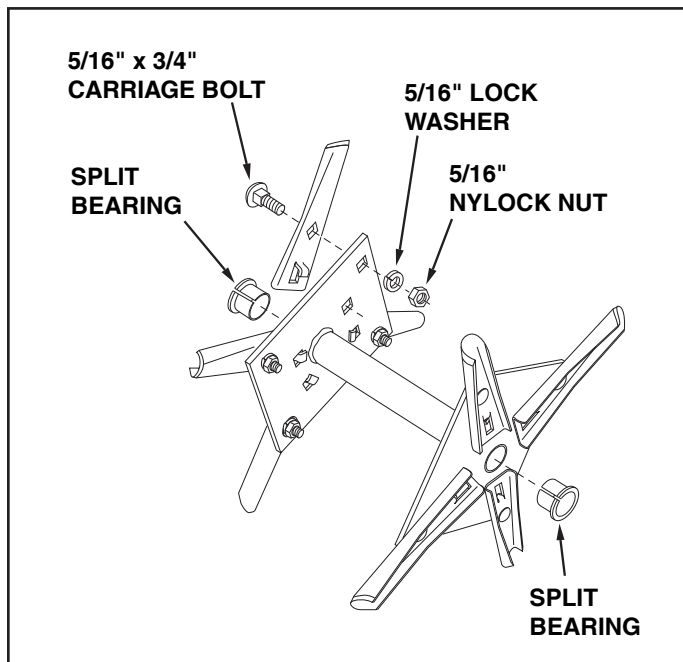

FIGURE 1
1. Assemble eight aerator knives on the **outside** of each double spool assembly. Rotate each knife to insert the locking tab into the spool plate, then align the square holes and secure with a 5/16" x 3/4" carriage bolt, a 5/16" lockwasher, and a 5/16" nylock nut. See figure 1.
2. Push split plastic bearings into both ends of each double spool tube. See figure 1.